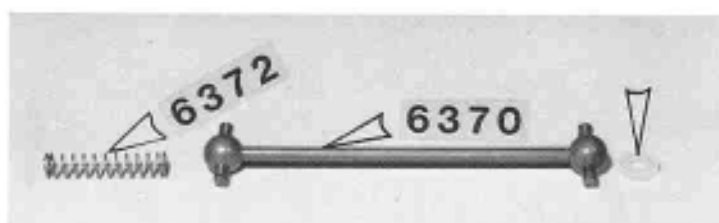

Fig. 117
-111- Before proceeding with the assembly of the rear hub carrier its a good idea to check fit of the dogbone in the stub axle. If it does not slide and swivel freely then check for burrs around the dogbone pins or heat treating residue inside the stub axle. Also check that the spring fits freely in the small hole at the bottom of the dogbone socket (see Fig. 117). If either of these holes are clogged they can be cleaned by soaking the stub axle in hot or boiling water for a half hour. Dry and oil the stub axle after cleaning.